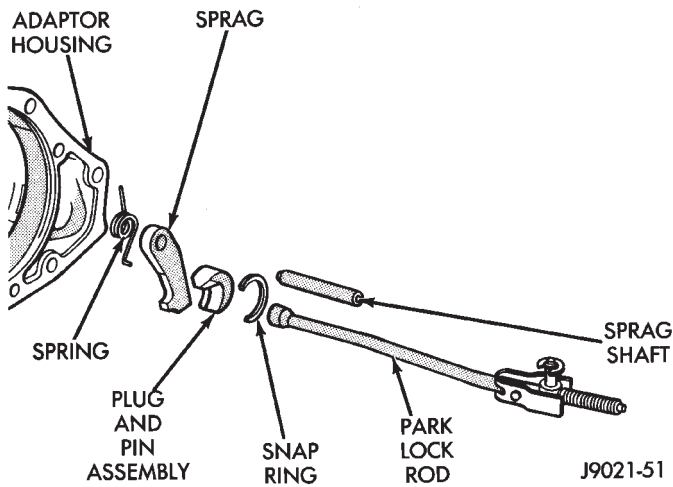

Fig. 22 Park Lock Components
(1) Raise vehicle and remove transfer case and adapter housing from transmission.
(2) Slide sprag shaft out of adapter housing and remove park sprag and spring (Fig. 22).
(3) Remove snap ring and slide plug and pin assembly out of housing (Fig. 22).
(4) If park rod must be serviced, remove valve body and remove rod.